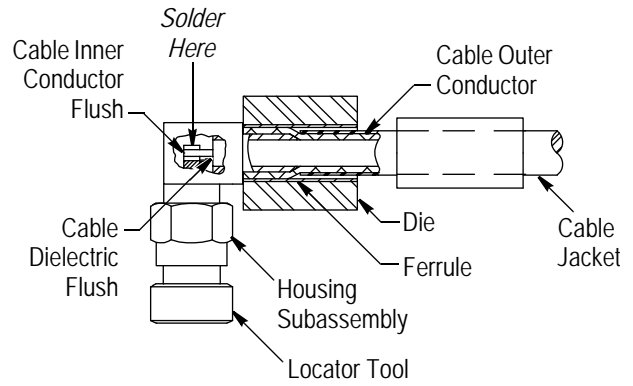

Figure 4
1. Secure the threads of the housing subassembly to the locator tool. See Figure 4.
5. Hold the cable dielectric and inner conductor flush as shown in Figure 4.
1. Slide the ferrule over the flared portion of the cable outer conductor. See Figure 4.